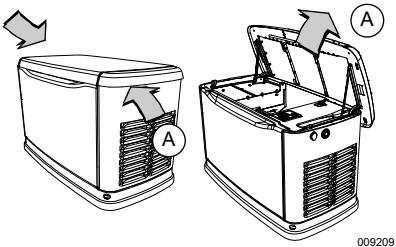

Figure 2-4. Opening the Lid
- See Figure 2-4. Two locks (A) secure lid; one on each side. Press down on lid above side lock, and unlock latch to correctly open lid.